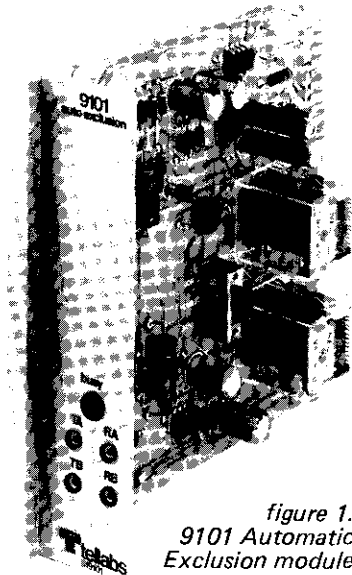

figure 1.
1.01 The 9101 Automatic Exclusion module (figure 1) provides three switch-selectable modes of automatic exclusion (cutoff) service for two 2wire customer loops sharing a common CO or PBX line appearance. A circuit of this type is also known as a *relay-type bridge lifter* or an *automatic cutoff circuit*.